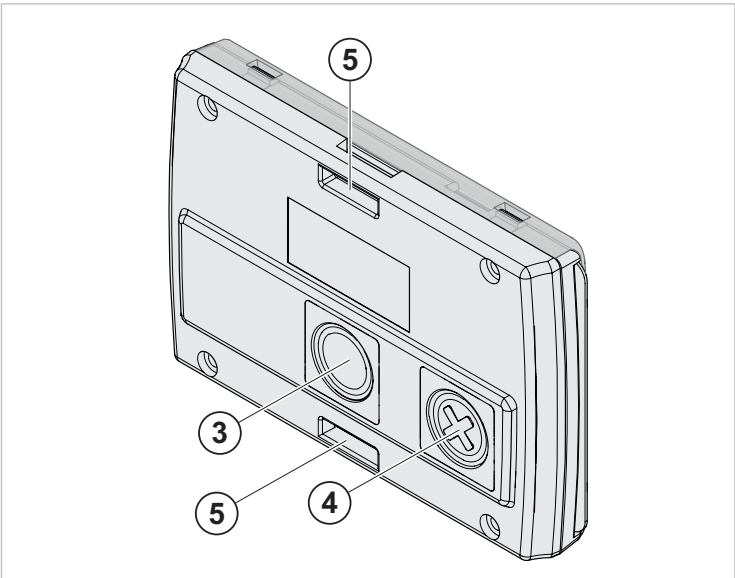

Fig. 9 Staff badge, rear side
- Assistance or assault/SOS call button (3, Fig. 9), to call for assistance or for backup in the event of assault.
- Cancellation button (4, Fig. 9)
- Press the call button (3, Fig. 9) for 10 s until the reassurance light (LED) lights up.
- Press the button for assistance call on the back of the badge (3, Fig. 9).
- ▶ Press the button for a SOS or assault call on the back of the badge (3, Fig. 9) several times in quick succession.